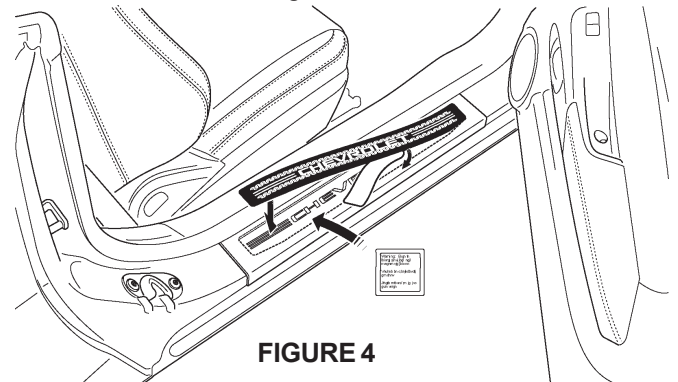

FIGURE 4
4. Center the sill decal in the recess and rub down using a clean cloth. Refer to Figure 4.